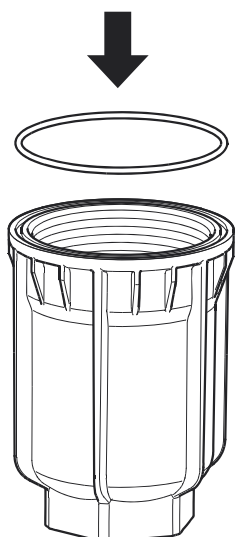

Figure 5-5-19 Replace O-Ring
13. Replace the O-ring in the filter housing. See Figure 5-5-19.